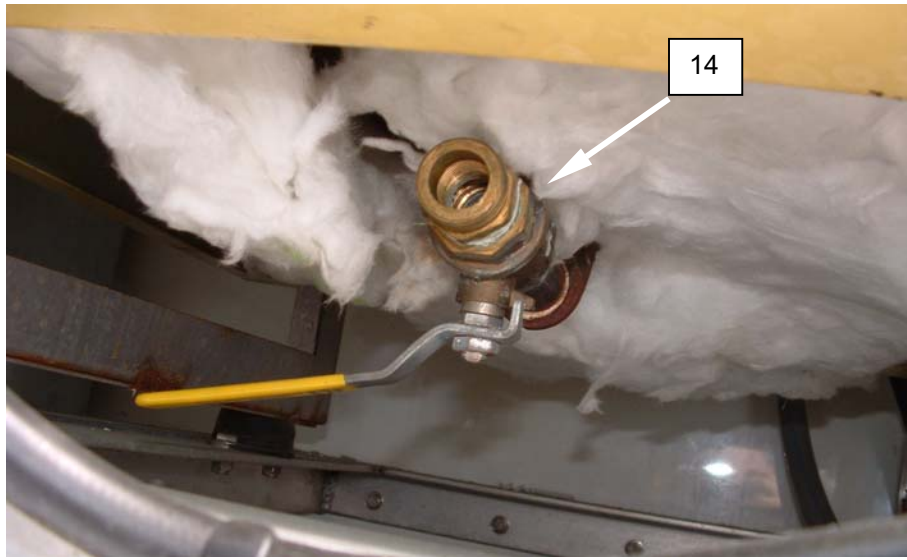

Figure 5. Test the Low Water Cutoff.
2. Attach a garden hose to the boiler drain valve (**Figure 5, Item 14**), and place the free end of the hose in a 5-gallon container.
3. Open the drain valve (**Figure 5, Item 14**) and allow the boiler to drain for at least 15 minutes.
5. If the burner starts firing, shut down the boiler immediately. This indicates a failure of the low water cutoff (**Figure 5, Item 15**).
6. Close the boiler drain valve (**Figure 5, Item 14**).
7. Open the pressure regulating cap (**Figure 5, Item 16**), and begin refilling the boiler with ethylene glycol IAW TM 10-3510-226-10.